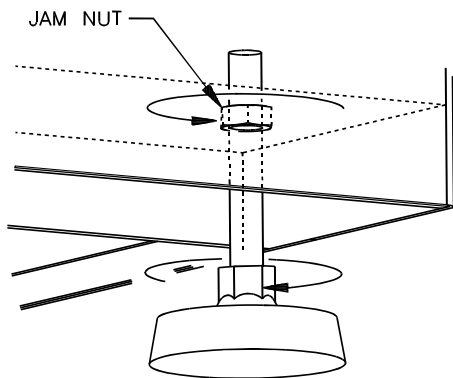

Figure 2-30. Tighten Jam Nuts
4. Now lower the two pads at the center of the machine such that the trimmer is firmly supported by all (6) leveling pads. Double-check that the table is still level.
5. Lock all (6) leveling pads in place by tightening the jam nuts against the inside of the machine's base as shown in Figure 2-30. The nuts are accessed from below the machine.